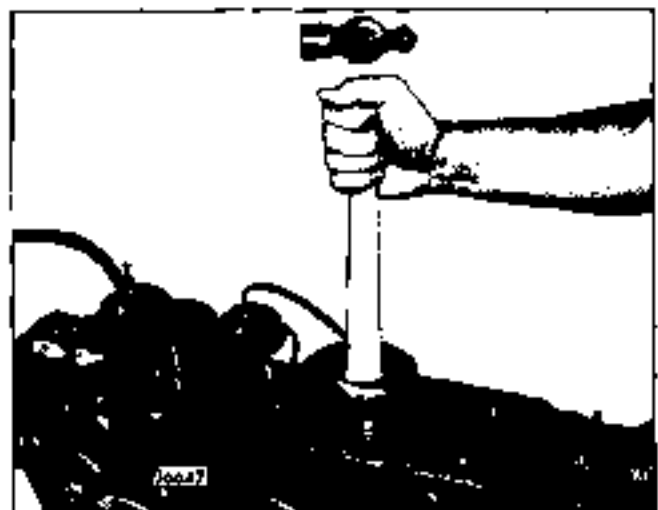

Fig. 6-65 Installing Piston in Cylinder
2. Using piston ring compressor J 6647, insert rod and piston assembly into cylinder so notch in top of piston is facing front of engine (Fig. 6-65).